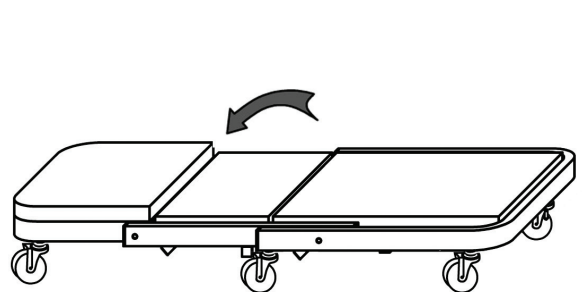

Figure 3
Step 1. Locate, then unlock the spring loaded Lock Pin by pulling out until disengaged, at the same time flip the Head Frame and Middle Frame upward and back towards the Rear Frame section until the Lock Pin can engage the Creeper Seat Locking Sleeve (Fig. 3). Ensure Lock Pin is fully engaged.